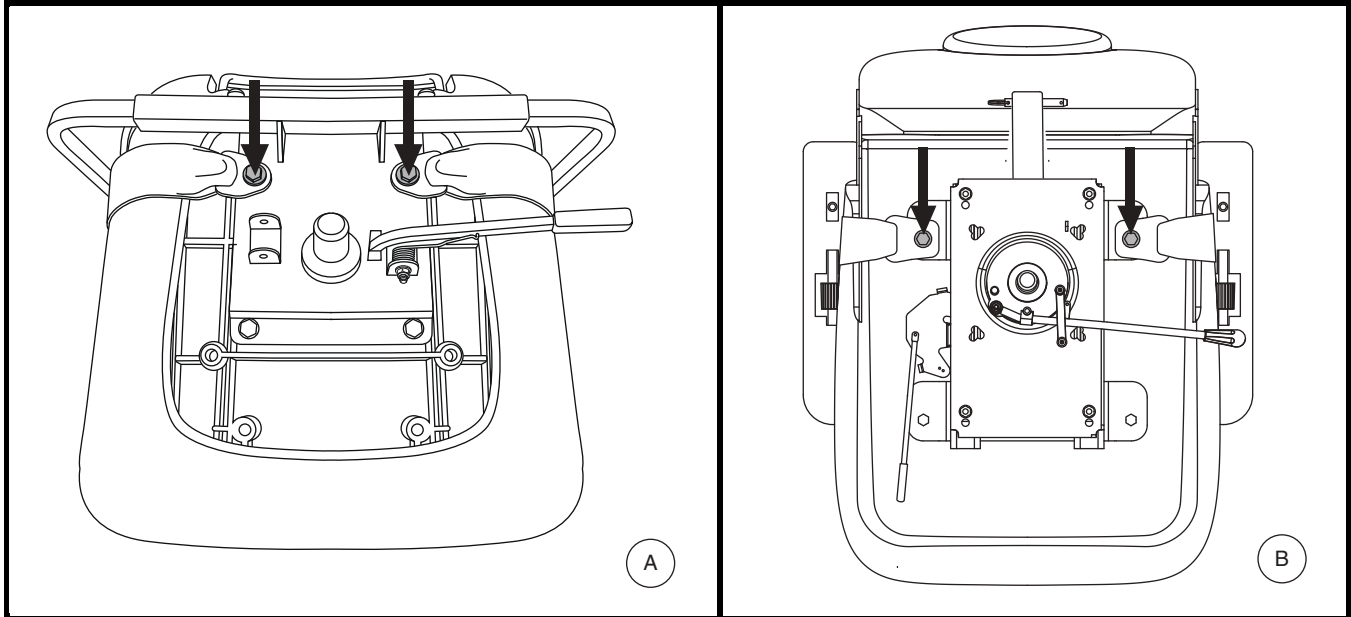

Figure 19. Positioning Belt Bolts
Your scooter seat may be equipped with a positioning belt that can be adjusted for operator comfort. See **figure 19**. The positioning belt is designed to help support the operator so that he or she does not slide down or forward in the seat. The positioning belt is not designed for use as a restraining device.
2. Place the seat upside down so that you can see the bottom of the seat base. See **figure 19**.